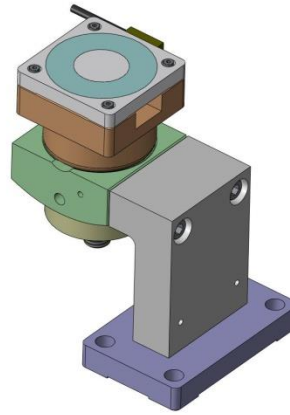

Figure 4.45. ADE sensor mounted in Vertical Position Sensor Assembly. Note orientation of sensor cable.
- Mount ADE capacitance sensor to each of the (3) **Horizontal** and (3) **Vertical Position Sensor Assemblies**, as shown in Figure 4.44 and Figure 4.45, respectively. Use (2) precision washers under each screw head. The top of each screw should protrude slightly above the sensor face, to prevent crashing the **Sensor** into the **Target** (Figure 4.46).